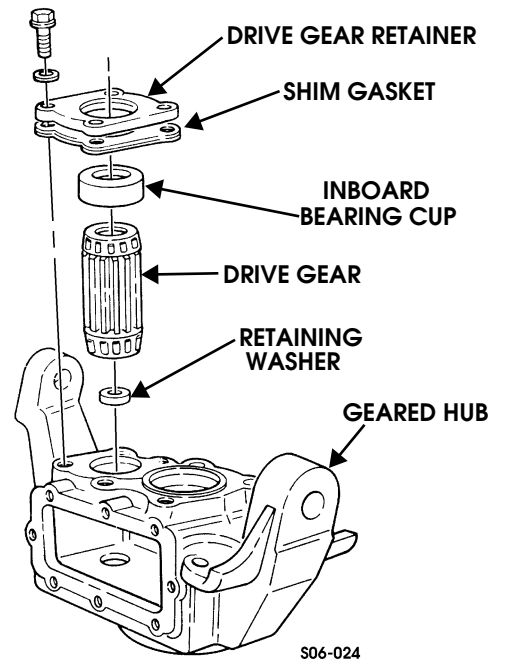

Figure 9-31: Retaining Washer Location
3. Install retaining washer in shallow end of drive gear (Figure 9-31).